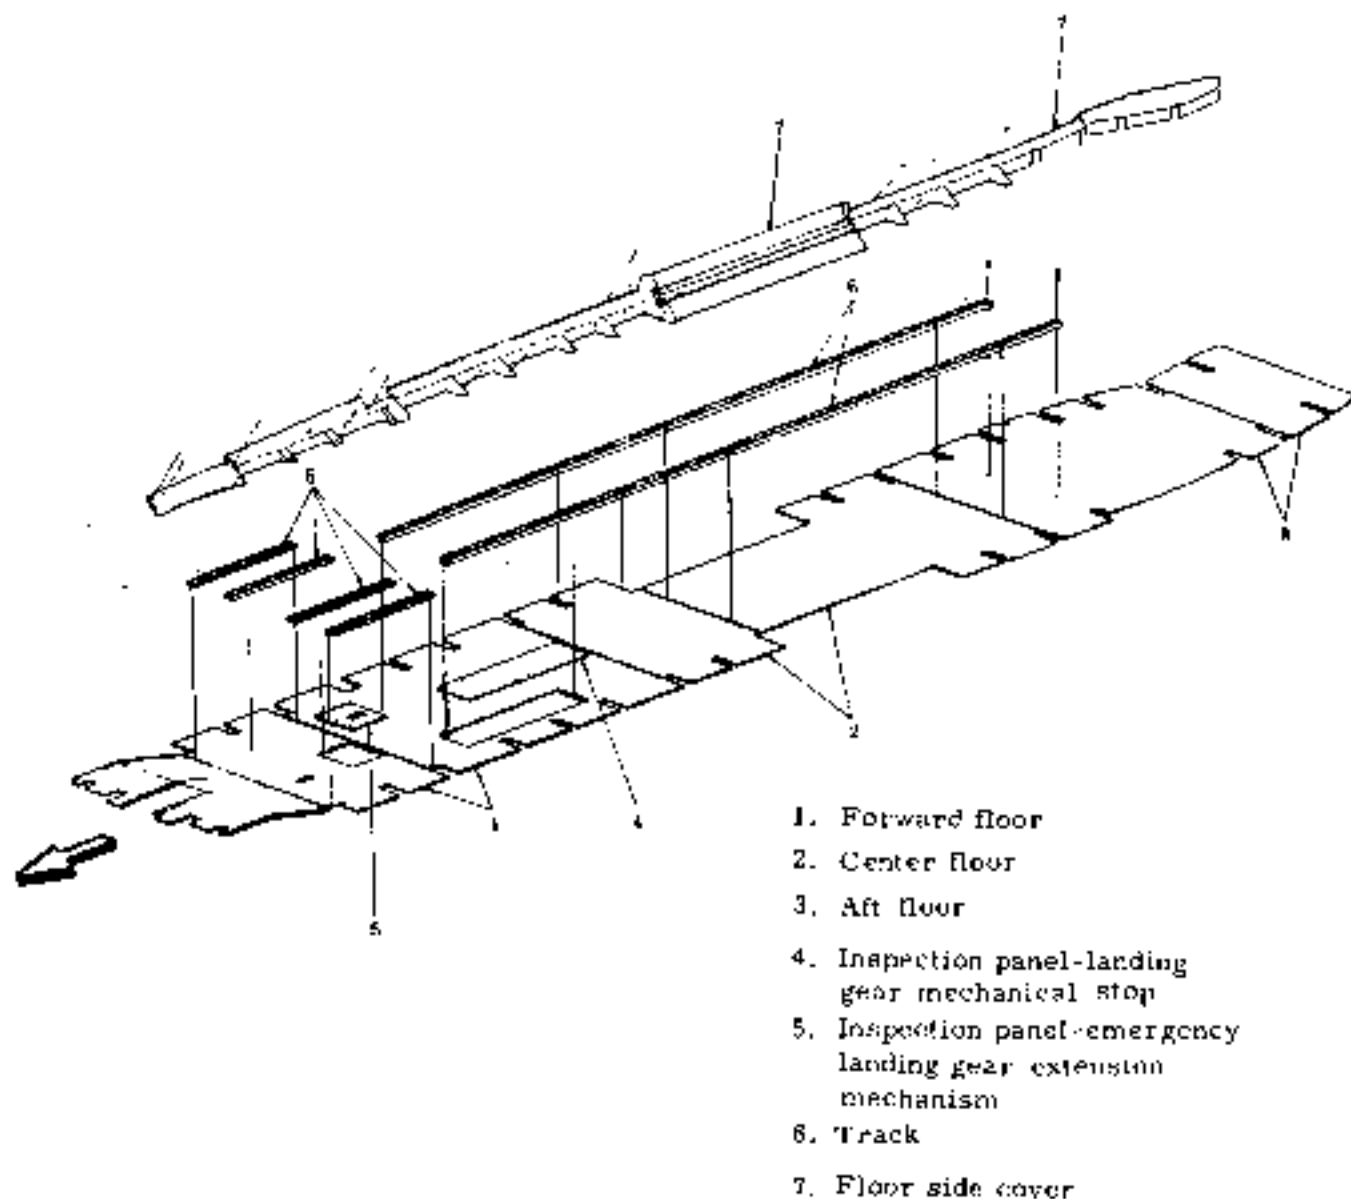

Fig 3-24 Reinstallation of cabin floor
- ii. Removed shim (8) should not be reused.
4.10 CABIN FLOOR (See Fig. 3-24)